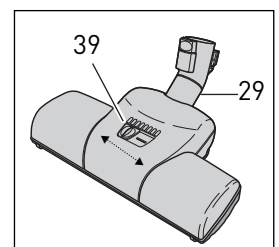

Figure 19
Turbo Nozzle - Figure 19
The Turbo nozzle (29) has an air-driven rotating brush for gentle brushing of carpets. The Turbo nozzle can be adjusted for high and low pile carpet. To adjust the head for high pile carpet, push the slider button (39) to the right. For low pile carpet, push the slider button (39) to the left. **The slider in Figure 19 is set in the low pile position.** The rotating brush should be cleaned regularly. Remove the Turbo nozzle from the telescopic tube to clean. Remove fibers and hair from the brush manually.